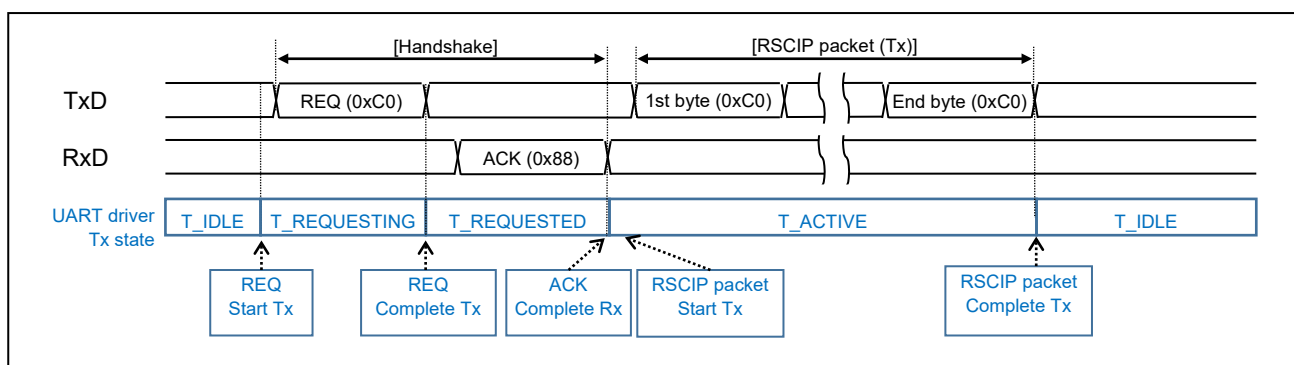

Figure 4-3 Host MCU has not received RSCIP packet from the module
- (a) Host MCU has not received RSCIP packet from the module (Figure 4-3)